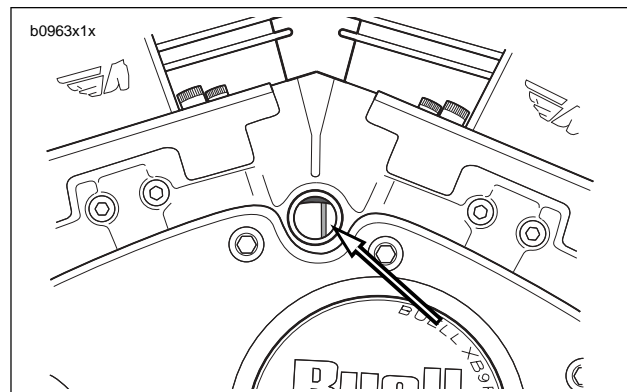

Figure 1-47. Retard Timing
4. See Figure 1-47. If timing is retarded (mark appears on right side of window) rotate timing plate clockwise.